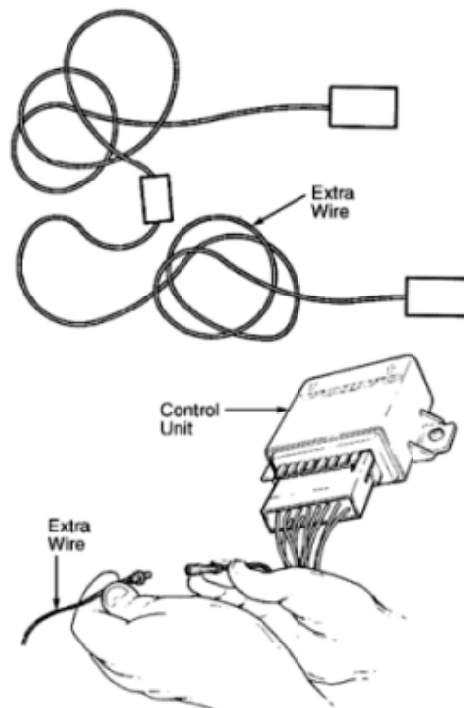

Fig. 3: Connecting Extra Wire To Control Unit
2) Manufacture an extra jumper wire from Wire (1 323 247-0), Wire (1 321 258-5) and Splicer (956 956-7). Connect one end of jumper wire to short wire next to control unit. See Fig. 3. Connect other end of wire to diagnostic hookup selector cable.